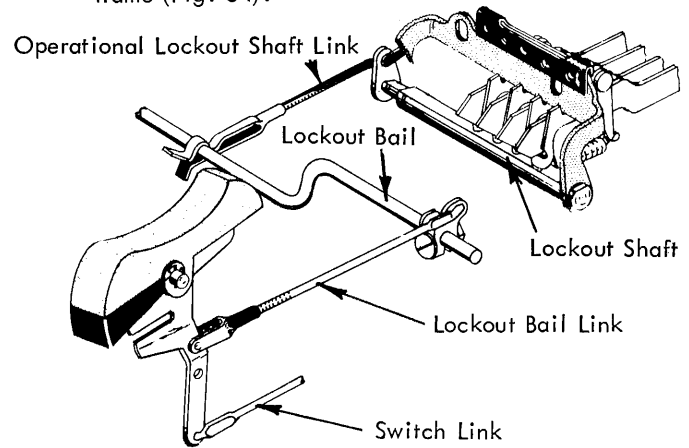

FIGURE 54. Operational Lockout Shaft Link
5. Operational Lockout Shaft Link - With the switch in the on position adjust the operational lockout shaft link so that the flat portion of the lockout shaft is toward the top of the machine and parallel to the bottom power frame (Fig. 54).